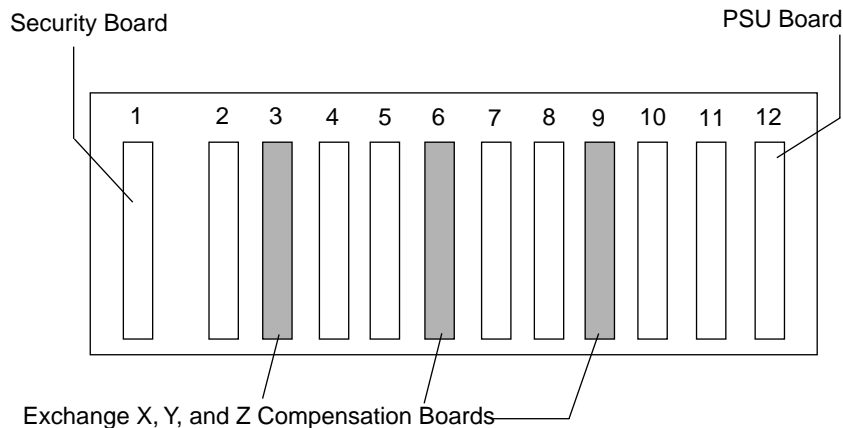

Figure 87. Gradient Supply Internal Card Cage
Figure 87 shows the internal card cage, which holds the power supply control boards.
3. Refer to Figure 87 and locate the positions of the three eddy current compensation boards. If we label the slots of the internal card cage 1 through 12 starting on the left-hand side with the security board, then the eddy current compensation boards are located in slots 3, 6, and 9. The boards are typically labeled “X Compensation,” “Y Compensation,” and “Z Compensation.”